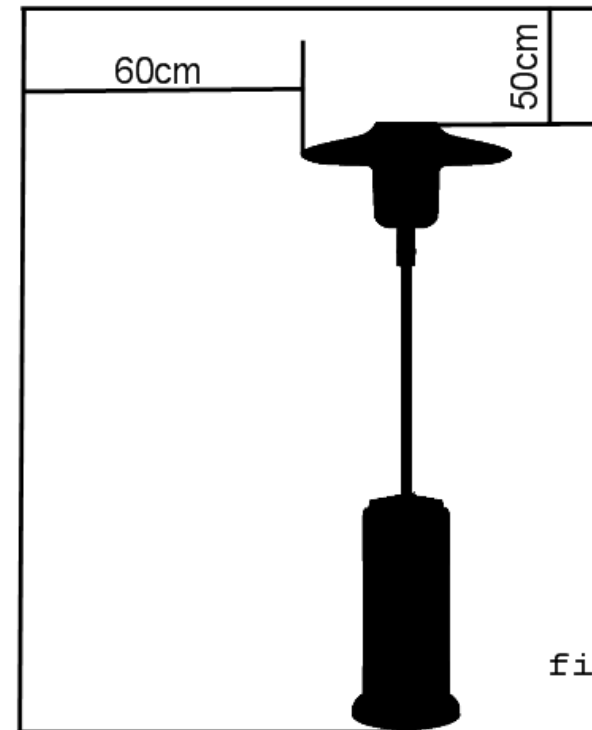

figure 1
- Always maintain proper clearance to combustibles, i.e. top 50cm (18 inches) and sides 60cm (24 inches) minimum –see figure 1.